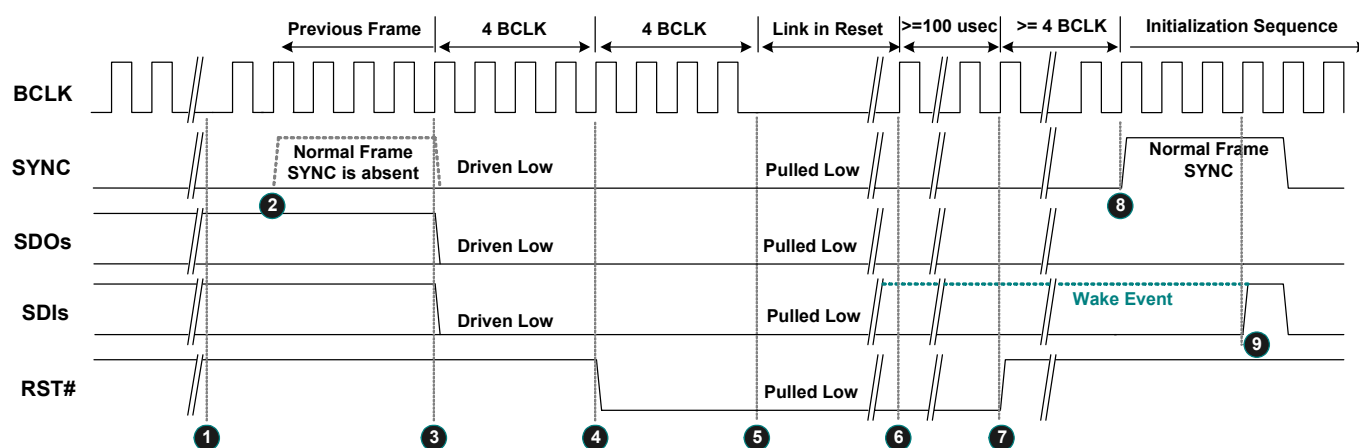

Figure 12. Link Reset Timing
3. Software initiates power management sequences. Figure 12, page 19, shows the ‘Link Reset’ timing including the ‘Enter’ sequence (❶~❷) and ‘Exit’ sequence (❸~❹)